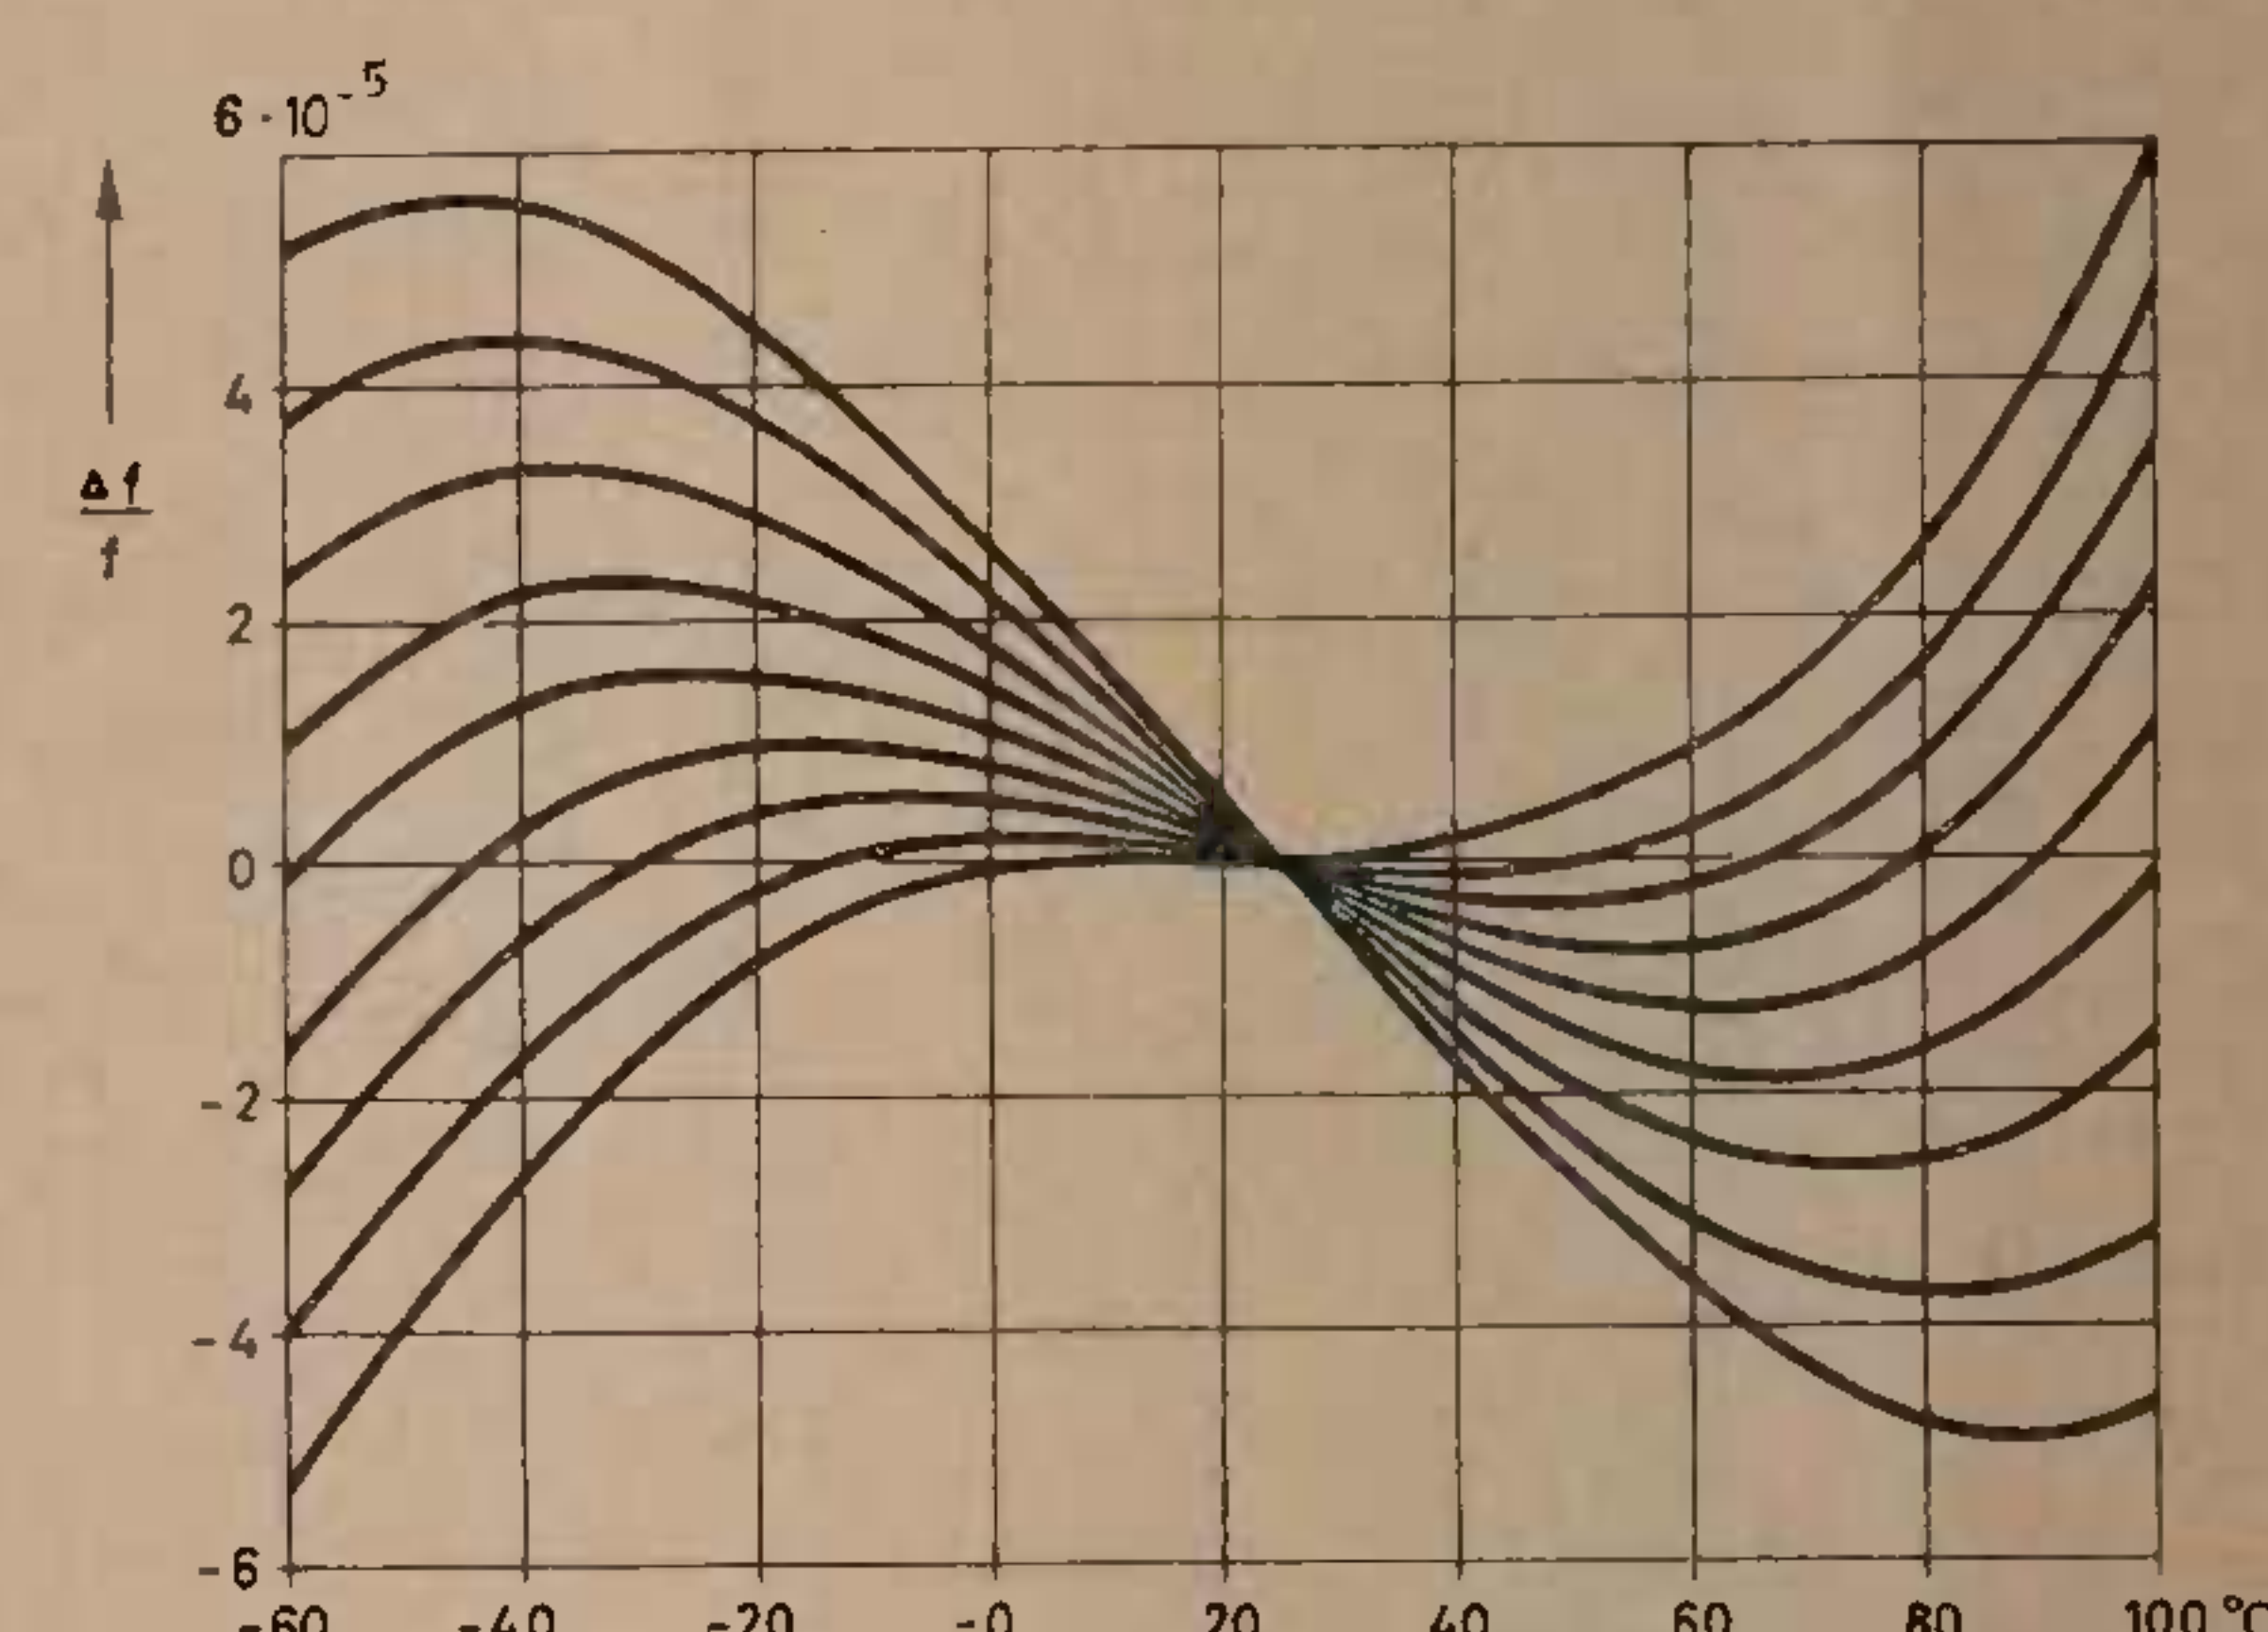

Fig. 2 Typical frequency-temperature dependence of AT quartz crystals with various angles of intersection.
The primary influence that degrades frequency stability is temperature cycling. In order to overcome dependence on temperature it is necessary right at the outset to develop quartz crystals with relatively low temperature coefficients (3). Certain quartz cuts exhibit very low temperature coefficients within certain temperature ranges. As may be seen from Fig. 2, the temperature coefficient of quartz changes its sign as a function of temperature. The temperature dependence of the frequency in the region of the turning point of the temperature coefficient is of the order of 10^{-7} to 10^{-8} per 1°C . It is only this property which makes it possible to achieve effective frequency stabilization by technical means such as a crystal oven, which naturally calls for increased power input. Portable battery-operated oscillators are therefore commonly provided with temperature compensation circuits